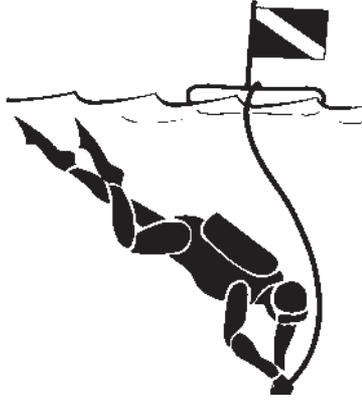

FIGURE 2-11 DIVER DOWN FLOAT
9. Do not allow anyone near the propeller(s), even when the engine is off. Propeller blades can be sharp and can continue to turn even after the engine is off. Stay at least 150 feet away from areas marked by a diver down float (Figure 2-11).